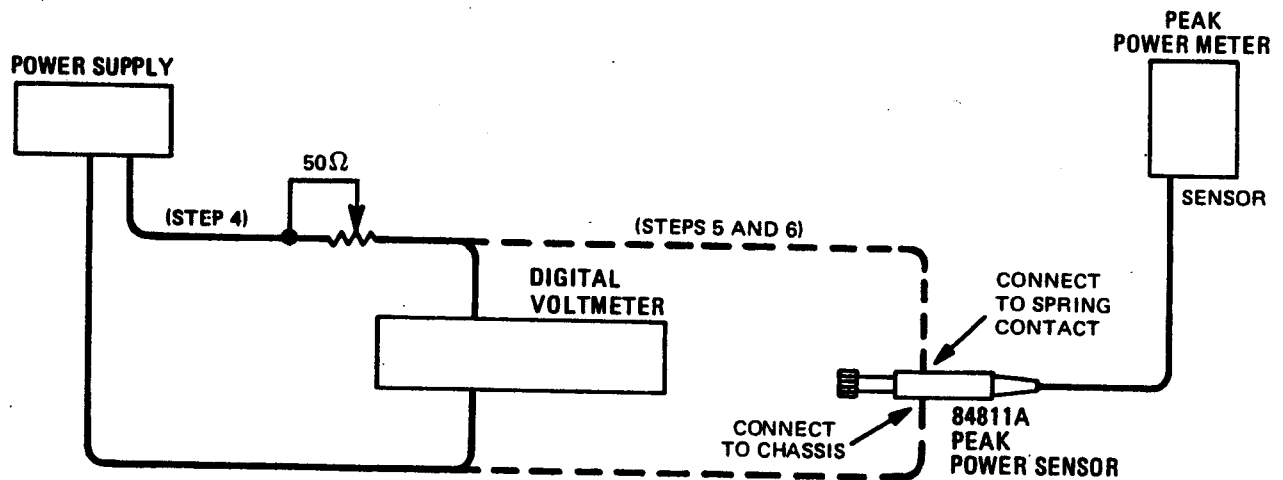

Figure 2. Power Supply and Gain (G) Adjustments Setup
4. Connect the 50 ohm potentiometer in series with the negative power supply output terminal (see Figure 2). Connect the digital voltmeter between the output of the potentiometer and the return terminal of the power supply. Adjust the power supply for a reading of  $-1.35 \pm 0.01$  Vdc.